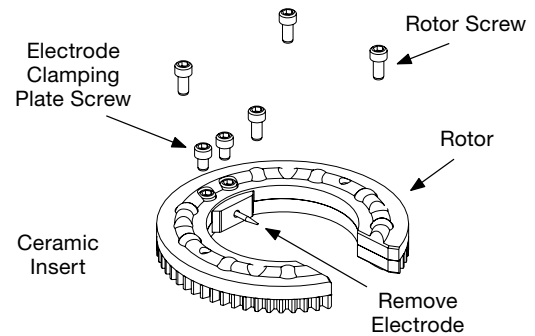

Figure 34 Removing the Rotor and Electrode Clamping Plate Screws
1. Remove the rotor screws and the electrode clamping plate screws from the rotor. Remove the electrode from the ceramic insert. See Figure 34.